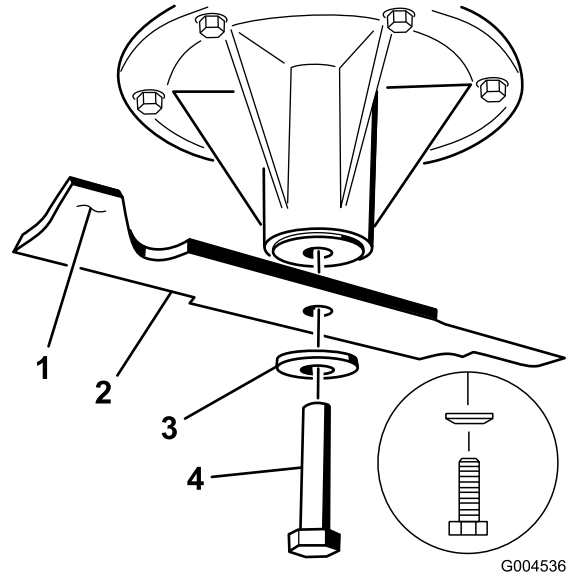

Figure 78
2. Remove the blade bolt, curved washer, and blade from the spindle shaft (Figure 78).
2. Check the balance of the blade by putting it on a blade balancer (Figure 80). If the blade stays in a horizontal position, the blade is balanced and can be used. If the blade is not balanced, file some metal off the end of the sail area only (Figure 78). Repeat this procedure until the blade is balanced.